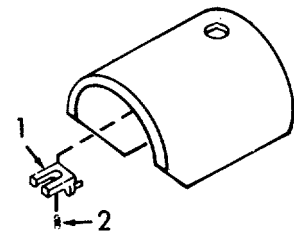

Figure 6-98. Latch Guard and Latch, Disassembly.
- (1) Refer to Figure 6-98. Loosen setscrew (1).
- (2) Remove latch (2).